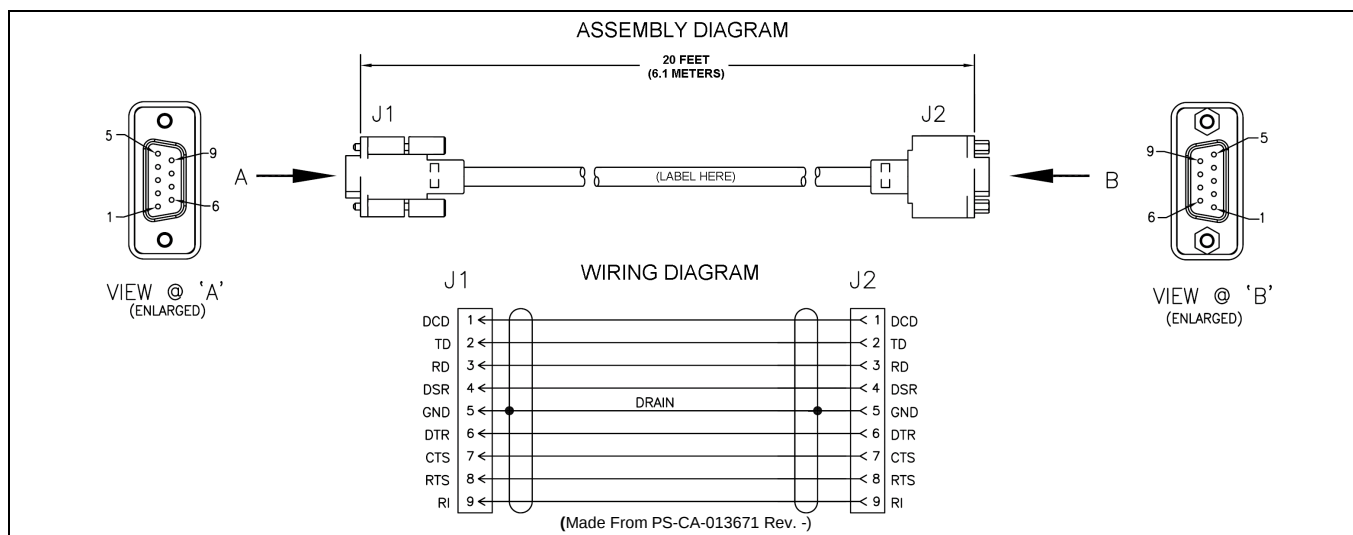

Figure 13-5: Programming Cable CA-013671-020
Serial Programming Cable CA-013671-020 can be used to program and configure the M5300/M7300 mobile radio via a Personal Computer (PC). This 20-foot-long cable has a female DB-9 connector on one end for connection to the PC's serial port, and a male DB-9 connector on the other end for connection to the serial port on the rear of the radio. The cable's assembly and wiring diagrams are shown in Figure 13-5 below.